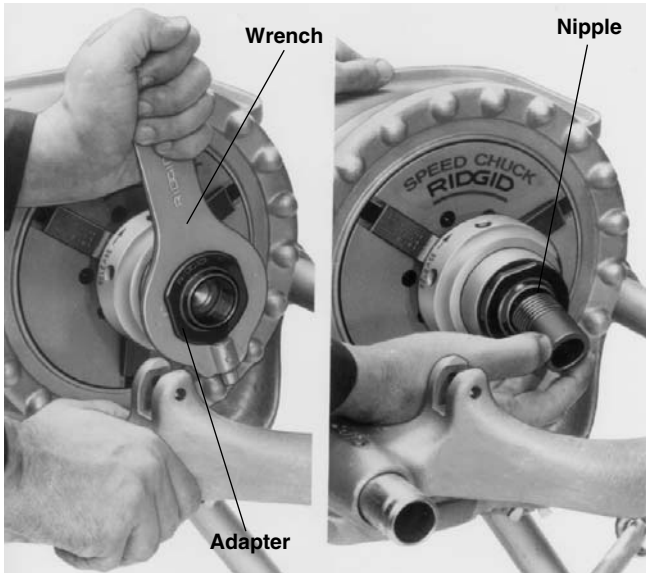

Figure 24 – Installing Nipple Chuck Adapter and Nipple
5. Select proper size nipple chuck adapter and screw into nipple chuck (Figure 24) by hand. Tighten with wrench provided with nipple chuck.
- Screw nipple (Figure 24) threaded on one end into adapter by hand. Turn directional switch to ON and press down on foot switch. Ream and thread other end.